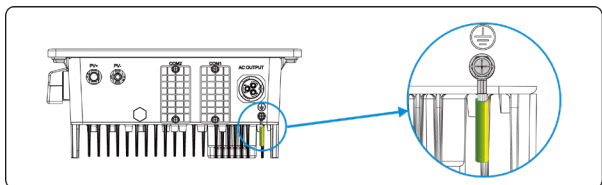

Figure 5.4 Secure the PGND cable
Step 4 Secure the PGND cable (done by step 1 & 2) using the ground screw and tighten the screw using a socket wrench (torque 1.2 N·m), as shown in **Figure 5.4**.